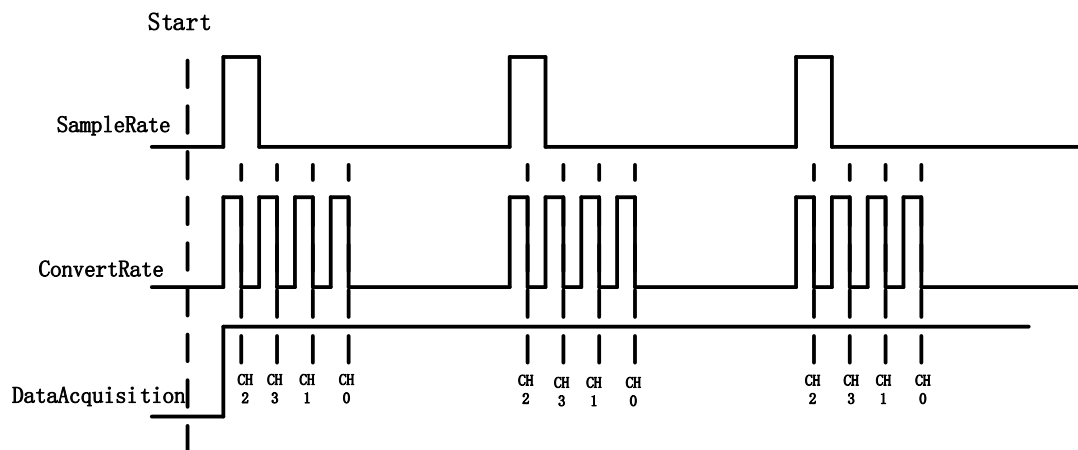

Figure 2 Sample Rate and Internal AD Conversion
**Channel Count:** how many channels you want to collect data. You can set up the channels in different orders, for instance 2,3,1,0. The acquired data will be arranged in the way you specify as shown in Figure 2. In this particular case, *Channel Count* is 4.